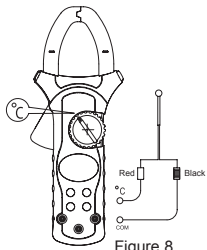

Figure 8
G. Measuring Temperature (UT206A Only, See Figure 8)